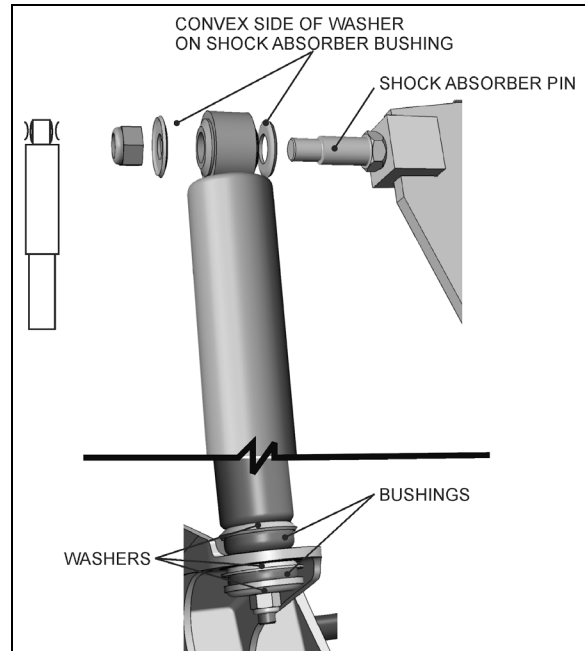

FIGURE 37: TYPICAL SHOCK ABSORBER SETUP 16009
Double-action, telescoping-type shock absorbers ensure a smooth ride and enhance vehicle stability on the road. The tag axle is provided with two shock absorbers while the drive axle is provided with four of them (Figure 37).
1. Remove nuts and washers from shock absorbers on upper mounting pin and lower mounting bracket, taking care to identify the inner and outer washers to ease reinstallation. Refer to Figure 37 for details.